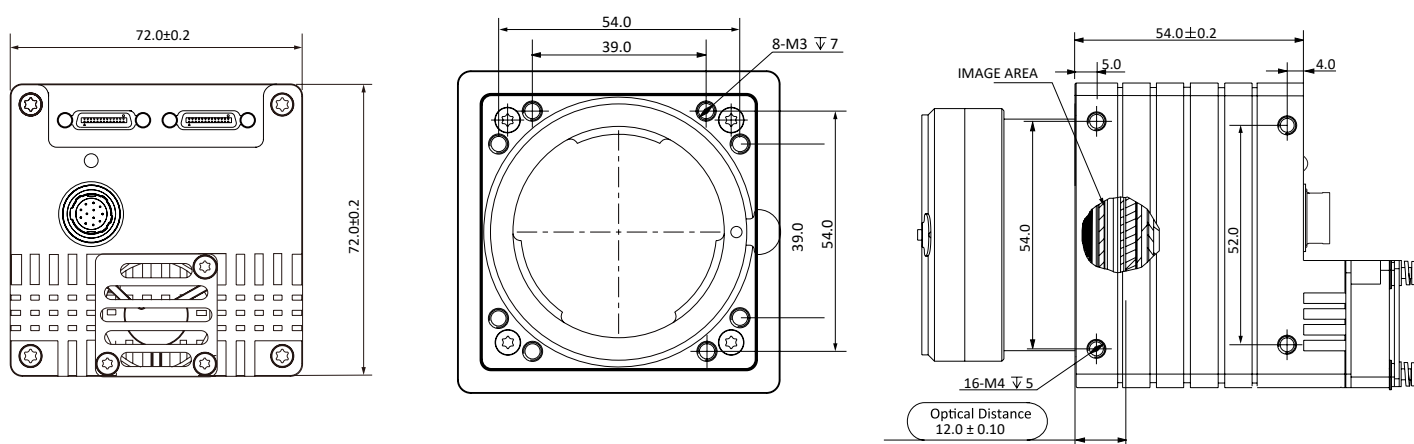

Fig. 1-7: Mechanical Dimensions (in mm) for Cameras with 72 * 72 * 54mm housing (F interface).
- Fig. 1-7: Mechanical Dimensions (in mm) for Cameras with 72 * 72 * 54mm housing (F interface).